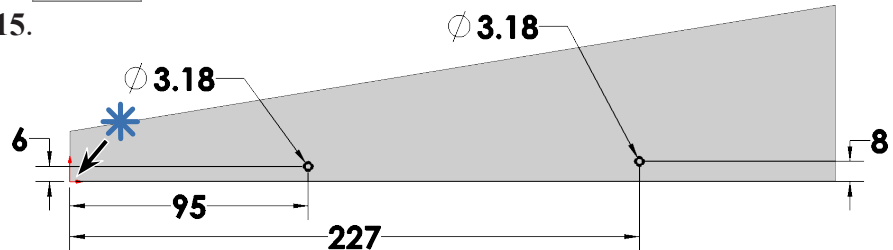

Fig. 15
Step 5. Click **Smart Dimension** (S) on the Sketch toolbar.
Step 6. Add dimensions, **Fig. 15**.